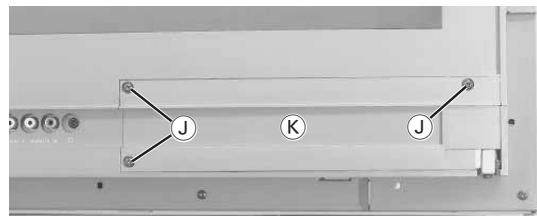
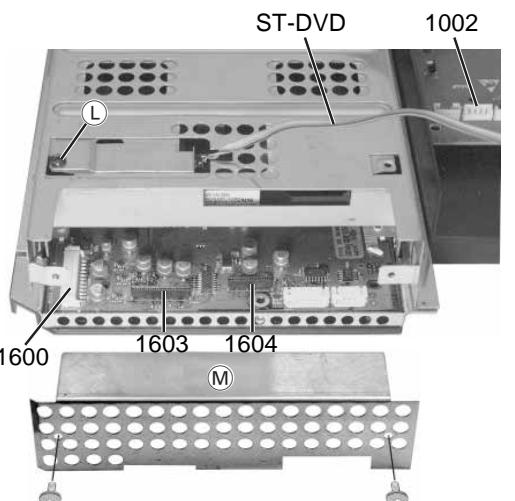
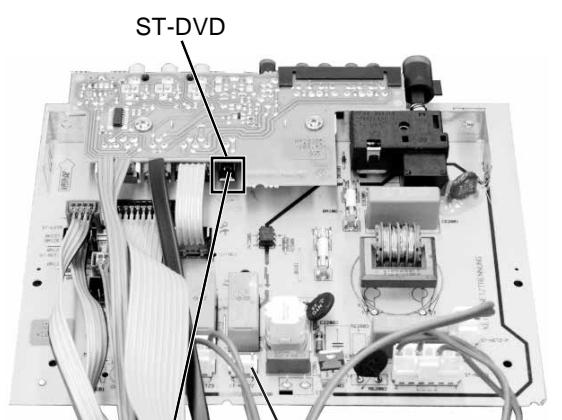

Fig. 15
Fig. 16
Fig. 18
- Undo the 3 screws ⑪ on the front cover ⑫ and remove the cover toward the front (Fig. 15).
- In the place of the front cover ⑫ slide the DVD drive mechanism from the front into the TV set and fix it with the 3 screws ⑪.
- Note:** To facilitate sliding in the DVD drive mechanism, it is possible to remove the mounting sheet metal together with the switch after undoing the screw ⑬ (Fig. 16) on the DVD drive mechanism. After sliding in the DVD drive mechanism refit the mounting sheet metal together with the switch and fix it with the screws.
- Connect the 4-core ribbon cable from the power supply board of the DVD plug-in unit (socket "0207") with the centre socket (1002) on the eject board (Fig. 16).
- Unscrew the cover sheet metal ⑭, then connect the 12-core lead with the socket "1600" and the two Flexprint leads with the sockets "1603" and "1604" in the DVD drive mechanism (Fig. 16).
- Fix the sheet metal cover ⑭ (Fig. 16) with the screws to the DVD drive mechanism.
- Remove the jumper from the socket "ST-DVD" (Fig. 18) on the socket board and connect the 2-core lead ST-DVD (Fig. 16) from the DVD drive mechanism.